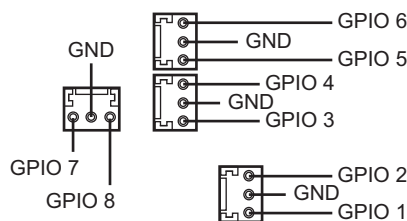

Figure 4.4 8320AR-055 GPI Connections
GPI/Tallies can be used to remotely control the operation of the TES-8643 by means of contact closures. VANC services (SCTE 104 triggers) can be enabled or disabled on one or more of these inputs. The 8320AR-055 rear module provides up to eight GPI and Tally pins to interface with external equipment. (Figure 4.4)
- Refer to **Figure 4.4** for GPI configuration on the rear module.